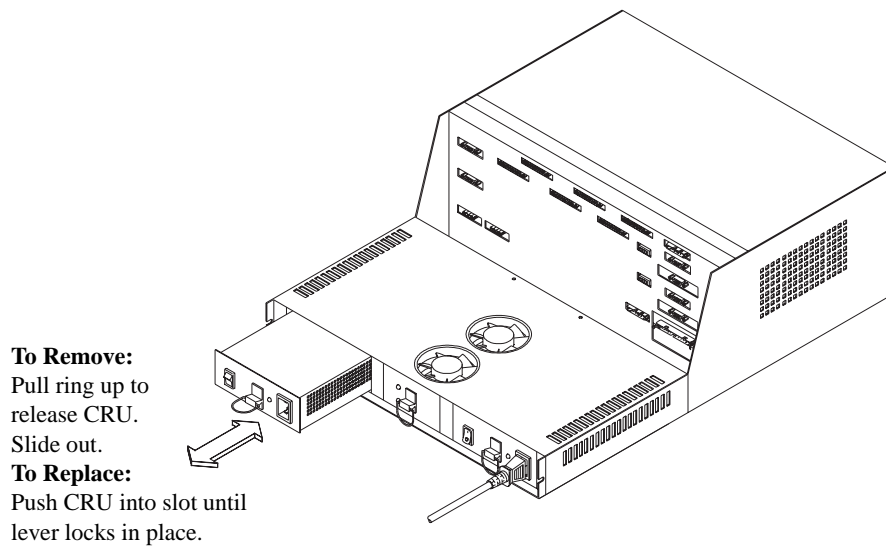

Figure 28. Removing and Installing a Power Supply CRU
4. Remove the failed power supply (Figure 28 on page 52).
5. Unpack and install the new power supply (Figure 28 on page 52).